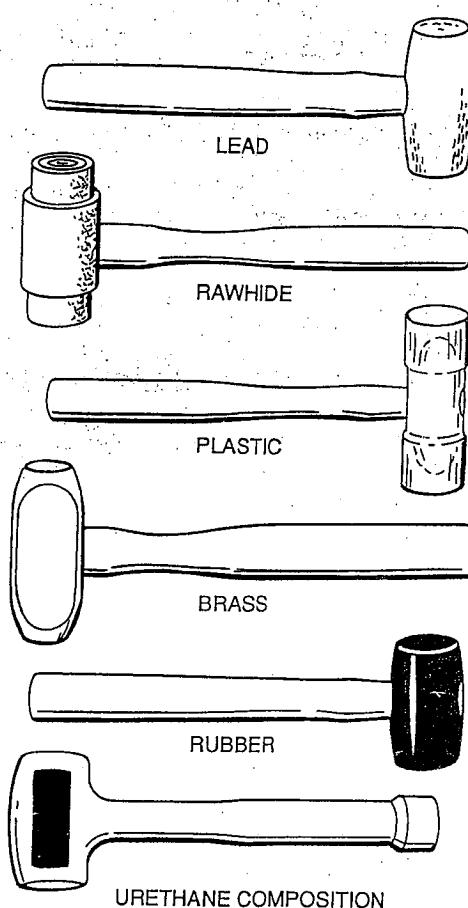

Fig. 14 — Soft Hammers
**Soft hammers** (Fig. 14) are used in place of steel hammers to protect machined surfaces or fragile parts. These hammers are commonly made of lead, rawhide, plastic, brass, rubber, or urethane material. Urethane hammers are sometimes filled with lead shot to produce a "dead blow."